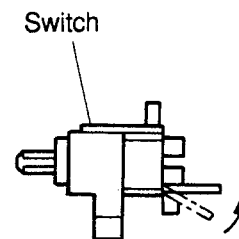

Figure 8
- (2) Prepare the terminals of the switch of the new solder as shown in Figure 8.
- (3) After that, insert the switch into the photo PC board, and solder the terminals.